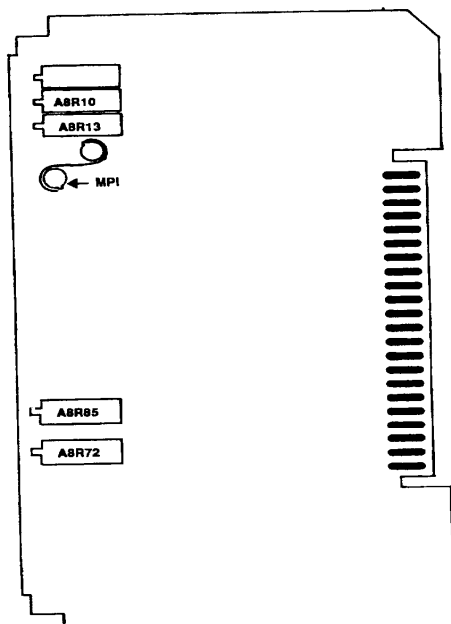
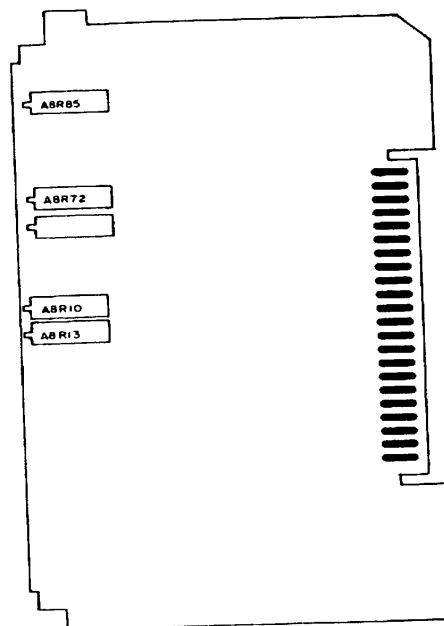

Figure 5. A8 sweep generator
Figure 6. A8 sweep generator
Adjustments for SN prefix 2215A and below are shown at figure 5 and SN prefix 2332A are shown at figure 6.
(1) Subtract dead time value recorded in (3) above from frequency counter indication and adjust A8R10 (SN prefix 2215A and below, fig. 5) or (SN prefix 2332A, fig. 6) for frequency counter in limits indication listed in table 3.
(2) Subtract dead time recorded in (4) above from frequency counter indication and adjust A8R13 (SN prefix 2215A and below, fig. 5) or (SN prefix 2332A, fig. 6) for frequency counter in limits indication listed in table 3.